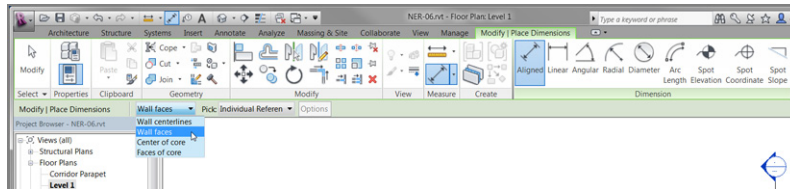

FIGURE 5.2: The Options bar for the Dimension command. Notice the Options button.
4. On the Options bar are two drop-down menus with some choices, as shown in Figure 5.2. Make sure Wall Faces is selected.
3. On the Options bar, choose Individual References from the Pick menu, as shown previously in Figure 5.2, and do the following: